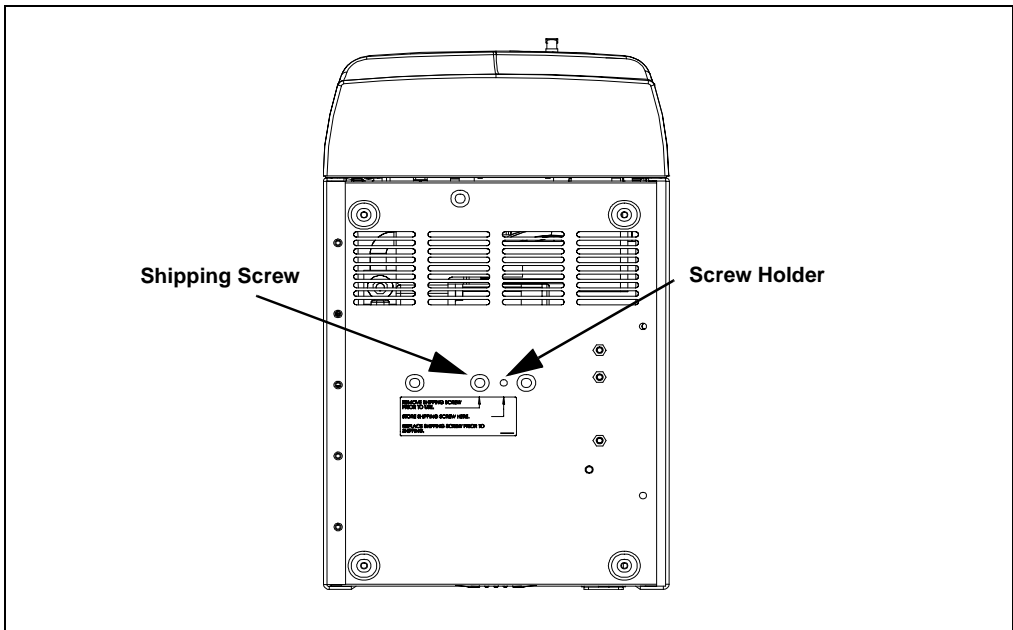

Figure B-1. Pump Shipping Screw Removal (Bottom view of DX-80)
2. Locate the middle screw on the bottom of the DX-80 (see Figure B-1). This screw secures the pump in place during shipment.
4. A screw holder is located to the right of the screw (see Figure B-1). Place the screw in the holder for safekeeping. You will need to reinstall the screw if the DX-80 is shipped to another location.